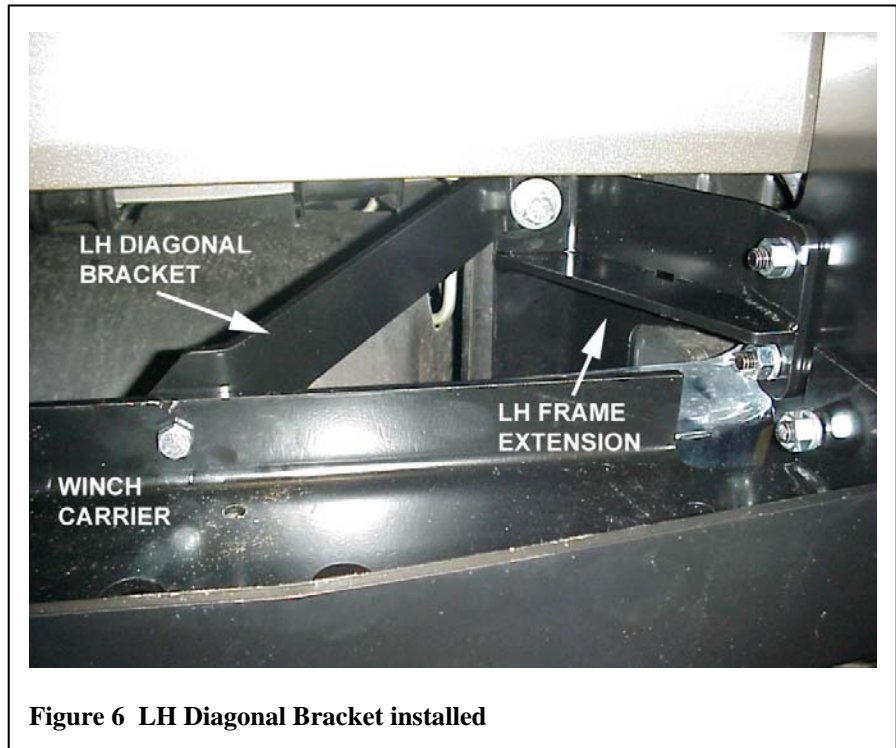

Figure 6 LH Diagonal Bracket installed
18. Position the Diagonal Brackets so the holes are centered in the rear vertical panel of the Winch Carrier or Front Receiver. Mark this panel for drilling at the Diagonal Brace holes. Remove the Carrier or Receiver (it may be necessary to loosen the 2-1/2" Tube screws) and drill two 7/16" holes where marked. Figure 6.